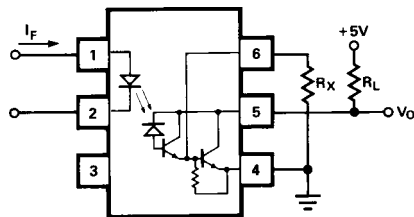

Figure 11. External base resistor,  $R_X$ .
- Use of a resistor between pin 4 and 6 will decrease gain and delay time. (See Figures 11, 12, and 13.)